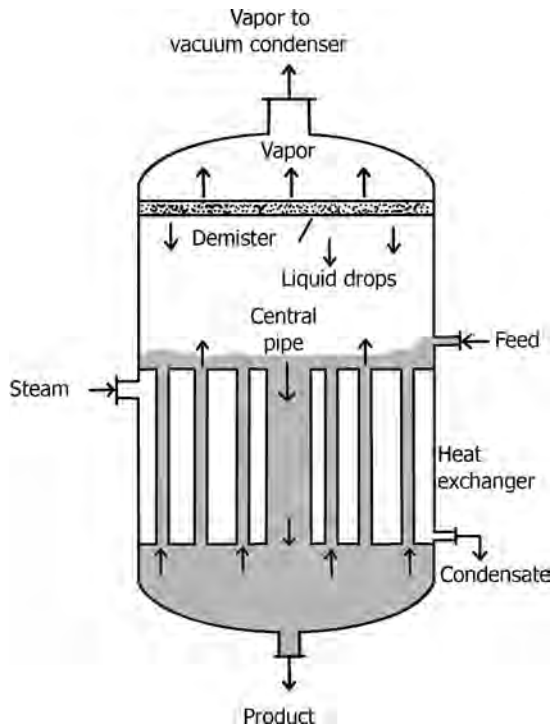

FIGURE 11.17 Short tube vertical calandria-type evaporator.
- Figure 11.17 illustrates calandria-type short tube vertical evaporator.